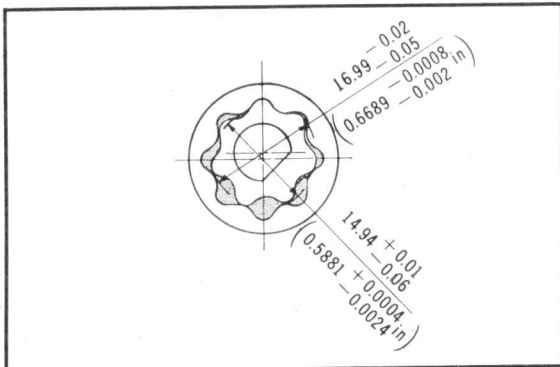

Figure 3-14. Oil pump backlash
- (3) Rotor tip clearance (Fig. 3-14)
- (1) Fit the inner rotor to the outer rotor and then install the pump assembly to the right crankcase. Install the oil pump assembly to the right crankcase. (Fig. 3-14)
- (2) Install the clutch assembly and the right crankcase cover.